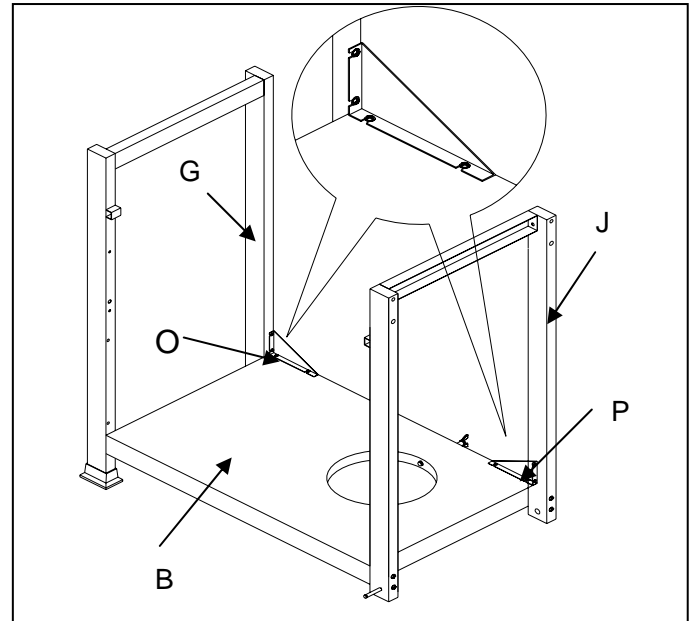

Fig. 6
- a) Loosen, but do not remove the screws which are pre-assembled on the cart legs, align the holes of the bottom front panel (S) with the screw in the legs, then place the front panel (S) onto the screws in the cart legs. As shown in Fig. 6.